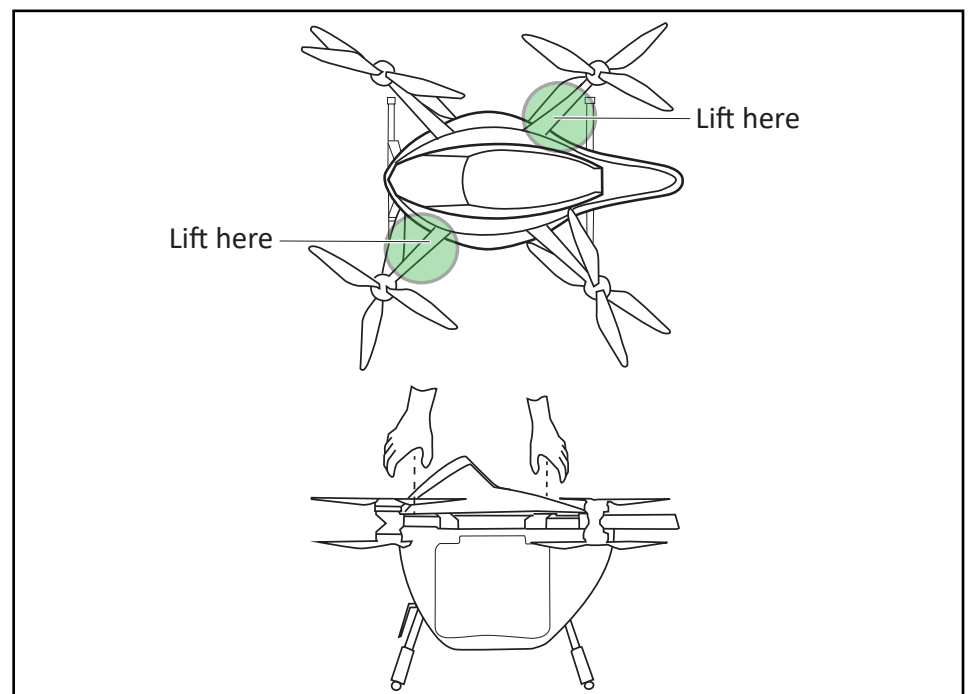

Figure 6: Lifting the Sparrow
When moving the Sparrow with one person, lift the RPA on the Boom Arm Connectors that are diagonally across from each other. Refer to “Figure 6: Lifting the Sparrow”.
2. Turn and unlock the landing gear locks. Place your hands on the diagonally-opposite boom arm connects and lift the RPA from its seat container. Refer to “Figure 6: Lifting the Sparrow” on page 12.